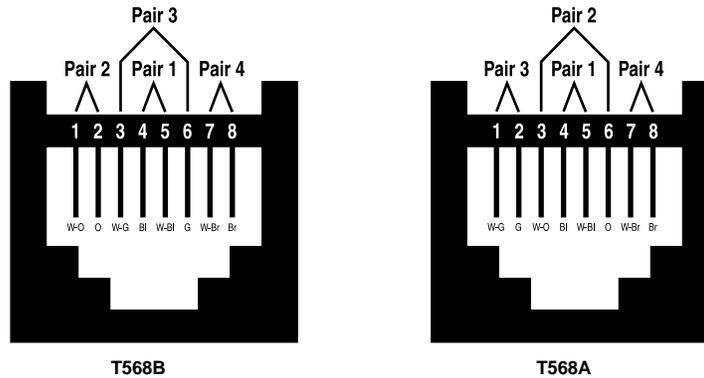

Figure 1. T568B and T568A wiring patterns.
Connectors: (12) or (24) RJ-45 modular jacks used for patching T568B or T568A wiring pattern (see Figure 1 below); IDC connectors support 22, 24, or 26 AWG solid wire